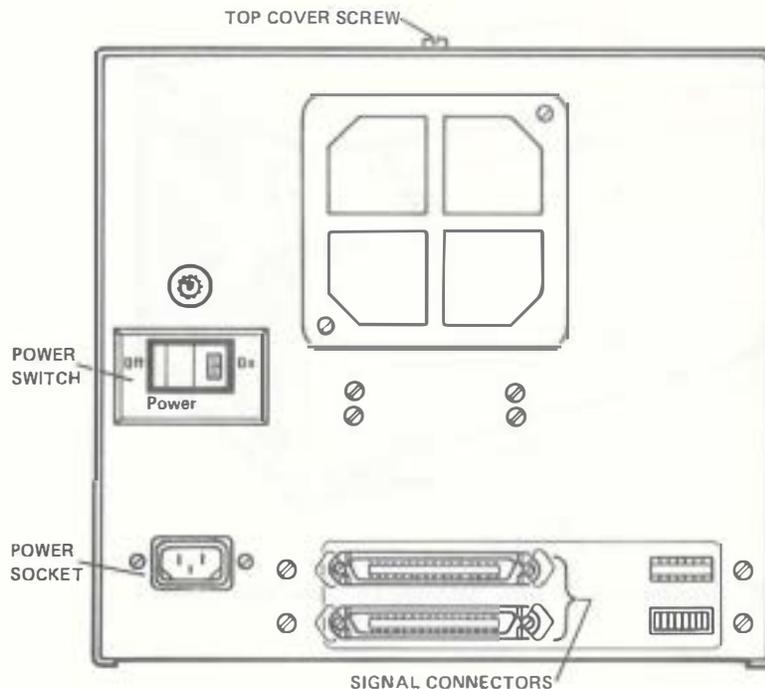

Figure 5-25. 8" Diskette Drive Assembly Connections
3. Disconnect the power cord and all other connectors on the rear of the diskette drive assembly. See Figure 5-25.
- Carefully lay the diskette drive assembly on its side and remove the five screws holding its cover in place. See Figures 5-25 and 5-26.
6. Replace the screw that secures the top of the cover to the housing. See Figure 5-25.
8. Return the diskette drive assembly to its upright position. Reconnect the power cord and all other connectors that were removed. See Figure 5-25.